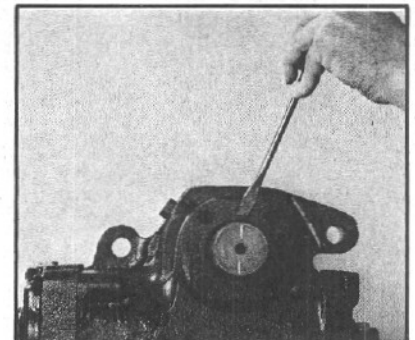

Figure 35
3. Remove and discard the dirt and water seal (27) from the trunnion cover (26) (FIG. 35).